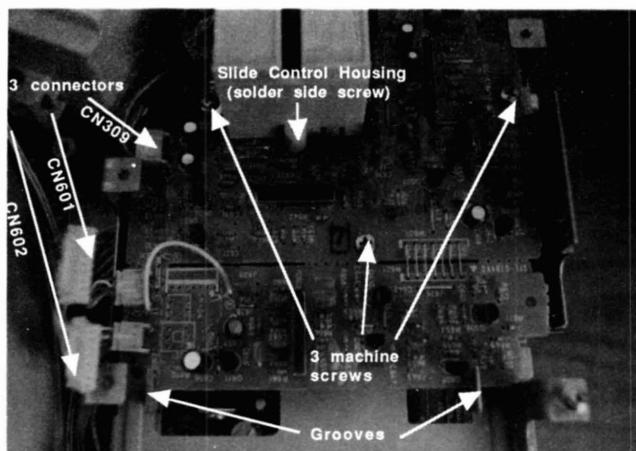
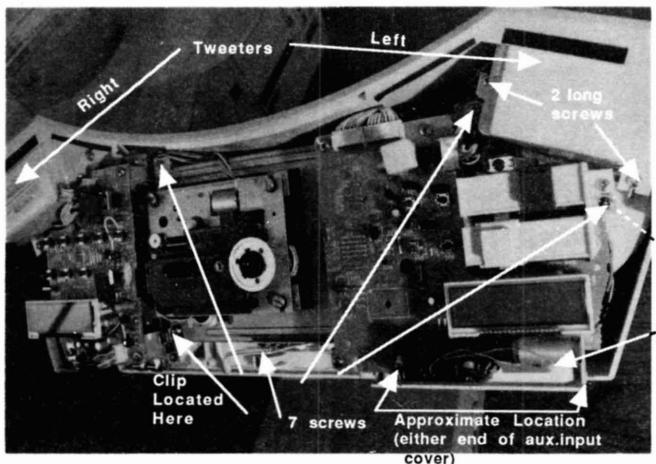

Figure 9
Figure 10
<p>B. Re-connect the wires to connectors CN306,307 and 310. These connectors are not interchangeable.</p> <p>C. Line up the PCB and shield with screw holes on the chassis. Make sure that the notched edge of the PCB is oriented correctly as illustrated.</p> <p>D. Secure PCB with 3 machine screws and 1 screw* (located at notched edge).</p> <p>25. EQ/Tone Control PCB Removal (Figure 9)</p> <p>A. Remove 3 machine screws which secure the PCB to metal chassis.</p> <p>NOTE: There is no need to remove the screw which secures the slide control housing to the metal bracket (not illustrated). However, the screw which secures the metal bracket to the unit must be removed (see Figure 10).</p> <p>B. Glue is applied to PCB in the area of the grooves. Trim away the glue with a sharp object.</p> <p>C. Slide the PCB out from under the grooves and away from the lip of the metal chassis.</p> <p>D. Disconnect the wires from 3 connectors.</p>	<p>E. The slide control housing must be removed to access the slide potentiometers. Remove the screw located on the solder side of the PCB. Squeeze the two catches and remove the housing (with attached metal bracket).</p> <p>26. EQ/Tone Control PCB Replacement (Figure 9)</p> <p>A. If the slide control housing was removed, replace as follows:</p> <p>I. Squeeze catches on each side of the housing and insert through the holes in the PCB. Make sure that the holes underneath the housing are aligned with the potentiometer shafts.</p> <p>II. Re-install the screw which attaches the housing to the solder side of the PCB.</p> <p>III. Re-install the screw which secures the metal bracket to the unit. (see Figure 10).</p> <p>B. Re-connect 3 connectors.</p> <p>NOTE: CN309 and CN601 are both 4 pin connectors. Make sure that the orange wire is re-installed on connector CN309.</p> <p>C. Slide the PCB under the grooves in the metal chassis.</p> <p>D. Re-apply glue to the area where the grooves secure the PCB.</p> <p>E. Re-install the 3 machine screws which secure the PCB.</p>
27.CD Main PCB Removal (Figures 10 and 11)
- A. Remove 7 screws which attach PCB to unit. One screw has a metal clip attached to it. See Figure 10 for location.
- B. Remove the auxiliary input cover by sliding out and away from the jacks (Figure 10).
28. CD Main PCB Replacement (Figures 10 and 11)
E. Re-install 7 screws which attach PCB and metal chassis to unit (Figure 10).
35. Right Tweeter Removal (Figures 10, 14 and 15)
A. Remove 2 long screws that hold the tweeter enclosure in place (Figure 10).
36. Right Tweeter Replacement (Figures 10, 14 and 15)
E. Align the screw holes of the unit and chassis and secure the tweeter enclosure with 2 long screws (Figure 10).
37. Left Tweeter Removal (Figures 10 and 15)
A. To access the left tweeter, remove the 7 screws which attach the CD Main PCB module to the unit (Figure 10).
B. Remove 2 long screws which attach the tweeter enclosure to the unit (Figure 10).
38. Left Tweeter Replacement (Figures 10 and 15)
- E.** Align the screw holes of the enclosure and unit and secure with 2 long screws (Figure 10).
- F.** Replace the CD Main PCB by installing 7 screws. Make sure auxiliary input cover is in place before securing (Figure 10).